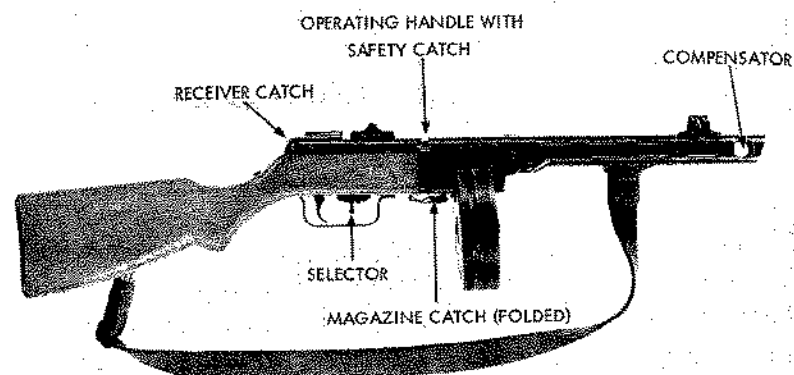

Figure 33. Soviet Model 1941 submachinegun (PPSh-41).
a. The Model 1941 or PPSH-41 submachinegun (fig 33) was produced in enormous numbers by the Soviet Union during World War II and, after the war, was distributed to many nations in the form of Soviet military assistance. Although obsolete in the Warsaw Pact countries, the PPSH-41 is still used by many other Communist countries and has been manufactured in Hungary, Iran, North Korea, and the People's Republic of China. The native designations of these weapons are: the Hungarian 48M submachinegun; the North Korean Type 49 submachinegun; the PRC Type 50 submachinegun. The national origin of these weapons can usually be determined by the receiver markings. If these markings are obscured, the rear sight offers a major clue. Soviet and Iranian PPSH-41's and Hungarian 48M's have V-notched rear sights; the North Korean Type 49 and the PRC Type 50 have aperture rear sights. Minor changes can be found in the design of various components, depending on the time and place of manufacture. Because these changes do not affect the handling or operation of the weapon, this manual will not cover them in detail. One extensively altered gun, the North Vietnamese K-50M submachinegun, is covered in section II, subsection C. The Germans, during World War II, and the Iranians, after the war, converted some PPSH-41's to use the 9x19-mm Parabellum cartridge; these versions are now rarely found.
Note: Drums are not always interchangeable; if a drum magazine is used and the serial numbers on the drum and on the gun do not coincide, the drum/gun combination should be test fired prior to use. Slide the safety catch (fig 33) on the operating handle outward, if necessary, and draw the handle fully to the rear.
Position the selector (fig 33) according to the type of fire desired (forward for automatic, rearward for semiautomatic). If immediate firing is not anticipated, place the weapon on safe by pressing the safety catch inward into the slot in the receiver. Slide the safety catch out to the ready position when ready to fire.